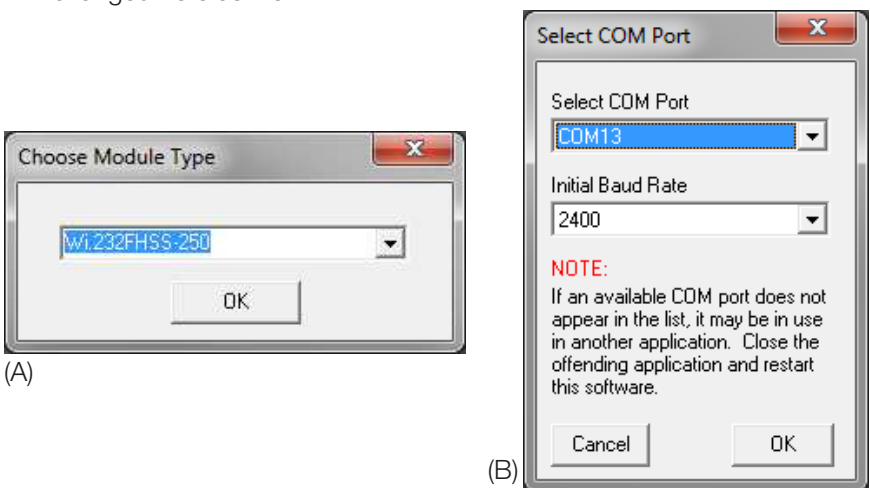

Figure 7: 250 Series Transceiver Development System Software Setup
6. Run the software, select “Wi.232FHSS-250” and click “OK” (Figure 7 A). On the next screen select the appropriate COM port and 2400 baud operation Then click “OK” (Figure 7 B). Note that if the baud rate has been changed on the module, then the baud rate must be changed here as well.